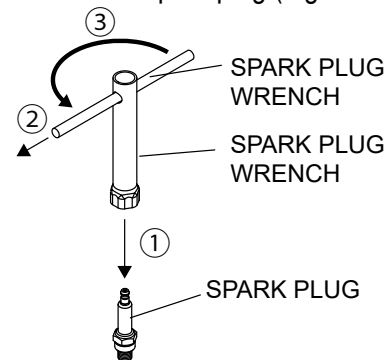

Figure 43. Spark Plug Removal
4. Insert the spark plug wrench so that the hexagonal section fits over the spark plug (Figure 43 ①).
5. Insert the bar handle through the hole on the upper part of the spark plug wrench (Figure 43 ②).
6. Turn the handle counterclockwise to remove the spark plug (Figure 43 ③).